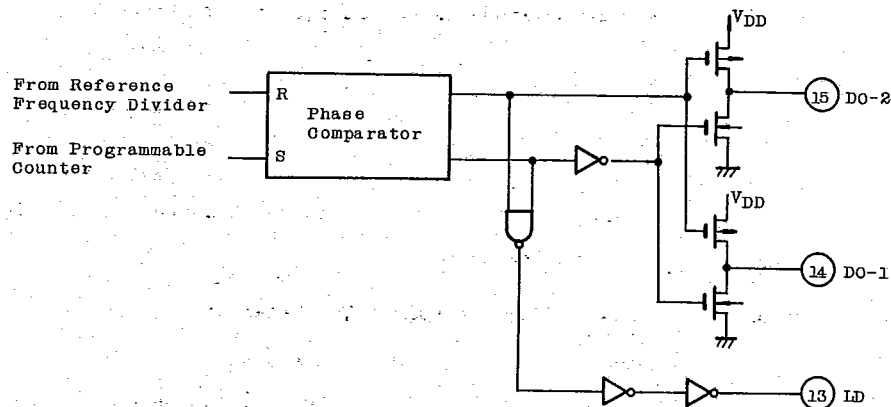

FIG. 2 CIRCUIT OF PHASE COMPARATOR BLOCK
- b) LD output becomes "H" level for the phase error time period during lock out. (Refer to Fig. 2)